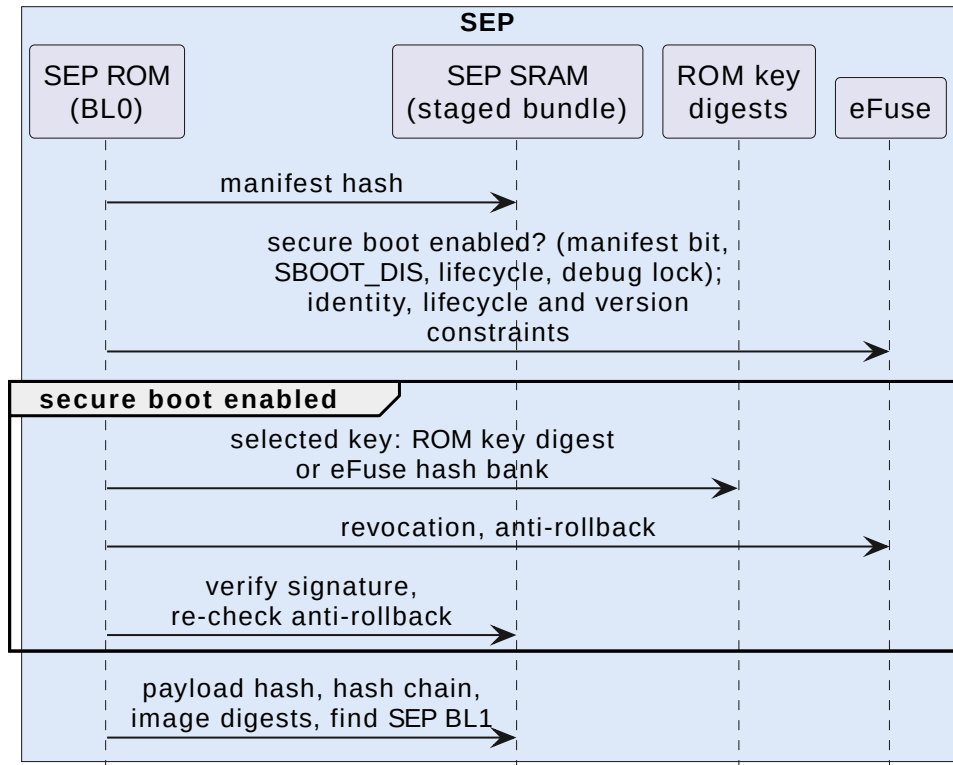

Figure 3. Bundle checks in SEP BL0
- 2. The primary authenticates.** SEP BL0 on chiplet 0 copies its bundle from the SPI flash into SEP SRAM, authenticates it (Figure 3), and enters SEP BL1. SEP BL1 restarts chiplet 0's SMC into SMC BL1 (Section 2.2).
- 4. The secondary authenticates.** SEP BL0 on chiplet 1 copies the bundle from its SMC's SRAM into SEP SRAM, checks it against chiplet 1's trust anchors (Figure 3), and enters SEP BL1. SEP BL1 restarts chiplet 1's SMC into its own SMC BL1.
On both paths the manifest lands at the base of SEP SRAM, `0x1000_0000`, and the payload immediately after it, 8-byte aligned. Validation always works on this copy in SEP SRAM, never on SMC SRAM, which stays writable from the SMC side. Figure 3 shows the order in which SEP BL0 checks it; Section 2.1.2 describes the checks.
4. **Authenticate.** Chiplet 1's SEP takes over as described in Section 2.2.3. It verifies the bundle against chiplet 1's ROM digests and eFuses only, as Figure 3 shows.